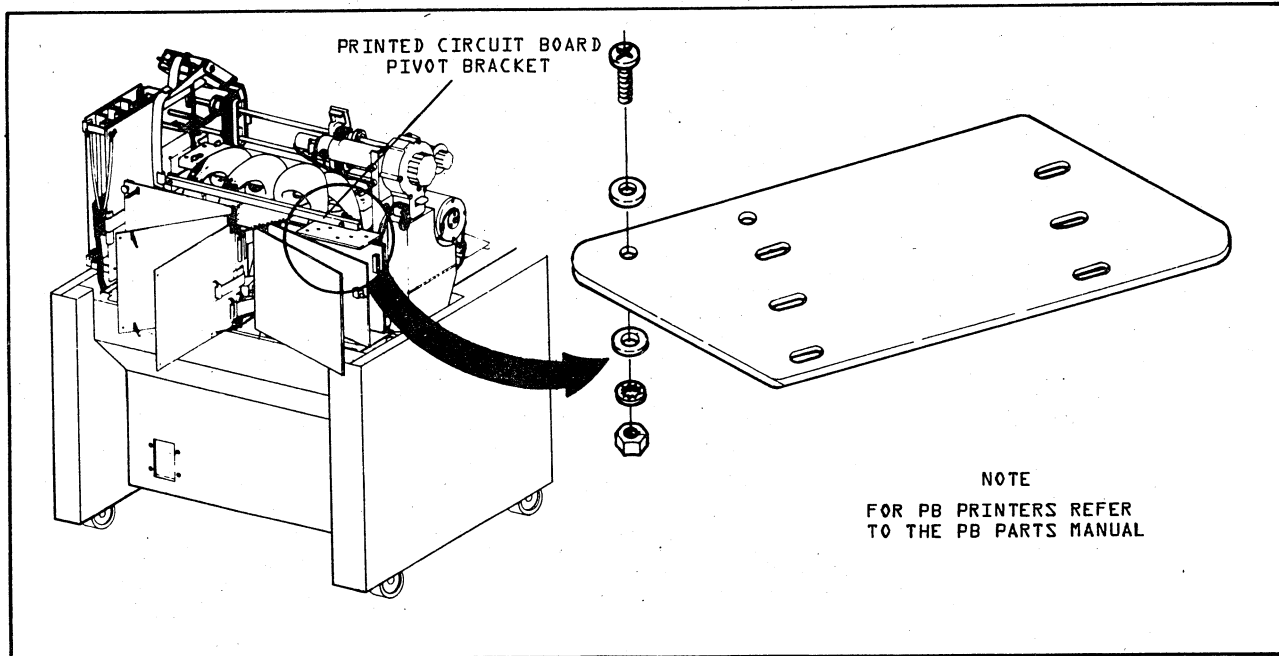

FIGURE 4-2. INTERFACE MOUNTING PLATE INSTALLATION
13. Install the interface mounting plate to the printed circuit board pivot bracket as shown in Figure 4-2.